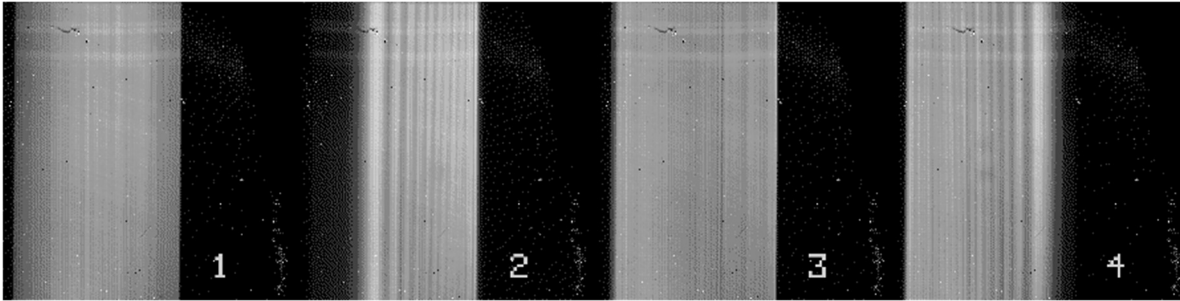

Fig. 5 Images of all four alignment lights in balance.
- Tilt the instrument toward the light giving less signal. Switch back and forth between the opposite lights, checking the relative signals frequently, until the signals are essentially the same. Fig. 5 illustrates a well-balanced condition.